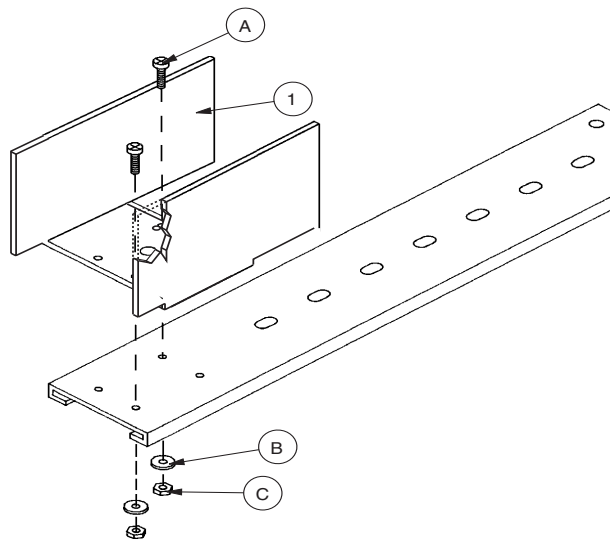

Figure 3. EHX4E Heater Bracket Installation
6. Attach the heater bracket to the front of the camera sled using the hardware provided (refer to Figure 3 or 4).
8. Attach the heater bracket to the front of the camera sled using the hardware provided (refer to Figures 3 and 4).